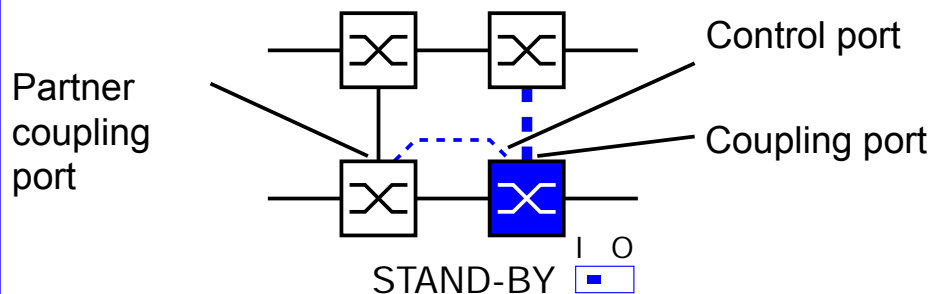

Figure 23: Two-Switch coupling with control line
- ☐ Select two-Switch redundant coupling with control line (see fig. 23).